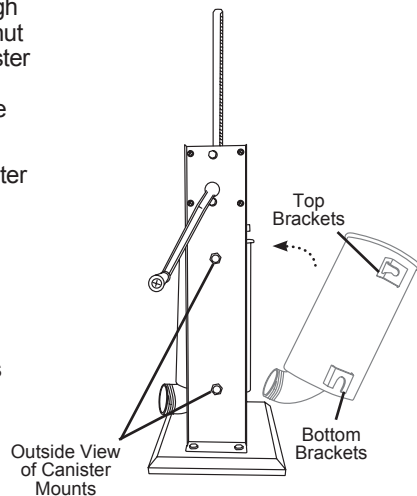

FIGURE 6
4. Insert the desired stuffing funnel through the front ring nut. Screw the front ring nut and funnel onto the mouth of the Canister until snug. **DO NOT OVERTIGHTEN** the front ring nut, as it may damage the funnel (**FIGURE 6**).